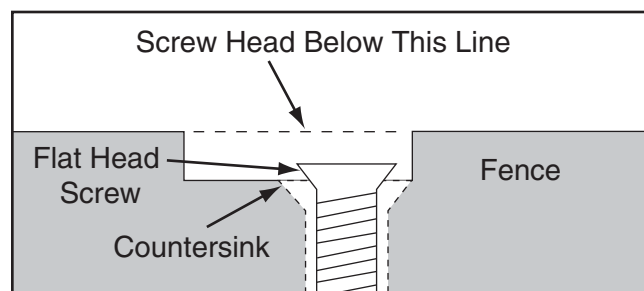

Figure 75. Flat head screw below fence channel.
3. Countersink the six holes drilled into the aluminum fence, then insert the flat head screws through the holes. Adjust the depth of the countersink holes as needed so that the heads of the flat head screws sit below the surface of the channel, as illustrated in **Figure 75**.